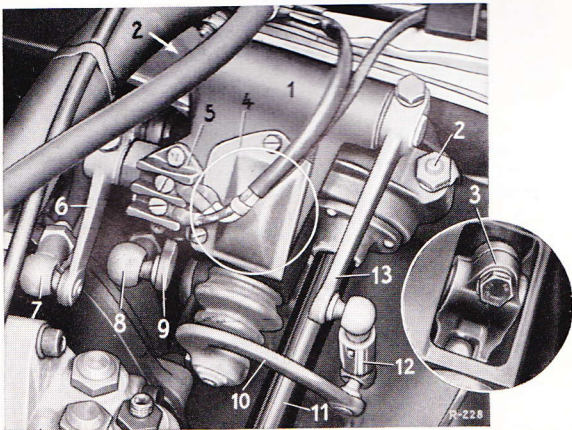

Fig. 25-1/1
2. Disconnect the two reversing light switch cables at the cable connector (5) (Fig. 25-1/1).